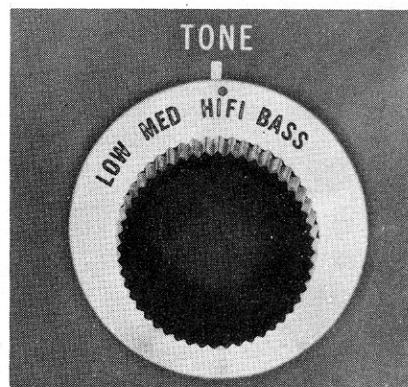

Figure 8. View showing Tone Control
9. The next control which will be of interest to you, will be the TONE control. (See Fig. 8.) When it is set on the red dot, the receiver produces substantially all musical tones as sent out by the radio station. However, by setting this control to BASS, HI-FI, MED, or LOW, you can adjust the tone as you prefer.